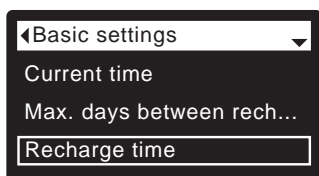

FIG. 52
3. Press the SELECT (O) button to display the Basic settings menu (See Figure 52).
7. Press the SELECT (O) button. The display will go back to the Basic settings menu (Figure 52).